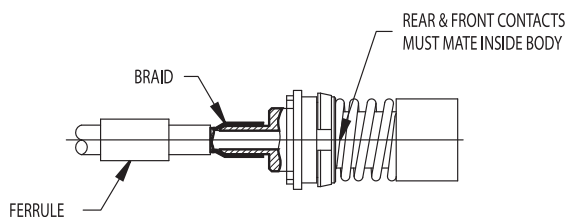

FIGURE 3
3. SLIDE FERRULE ONTO CABLE. FLAIR BRAID. INSERT CABLE INTO BODY, ALLOWING BRAID TO SLIDE OVER OUTSIDE OF BODY. INSERT CABLE UNTIL DIELECTRIC BUTTS AGAINST INSULATOR INSIDE BODY. REAR CONTACT MUST ENGAGE WITH FRONT CONTACT INSIDE BODY. (SEE FIG. 3)